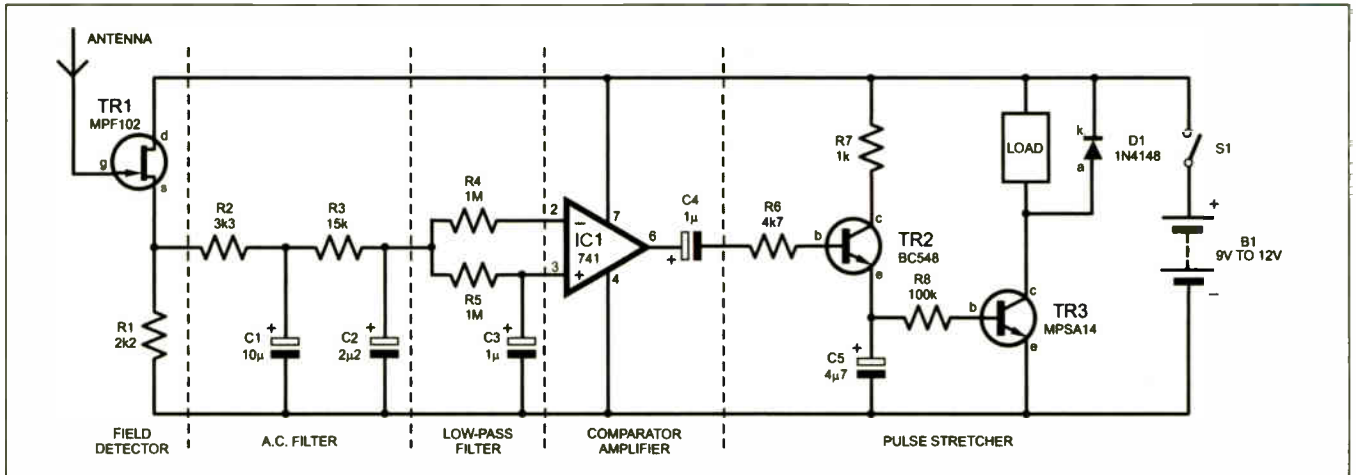

Fig.4. Circuit diagram for the Electrical Field Detector
**T**HE SIMPLE proximity detector whose circuit diagram is shown in Fig.4 exhibits some unique features. Unlike other techniques such as infra-red, ultrasonic, light-activated, microwave Doppler, etc., it does not use a sensing device other than a short piece of wire that acts as the pickup. It is omni-directional and requires no setting up. It will detect movement up to a distance of ten feet, subject to environmental conditions.